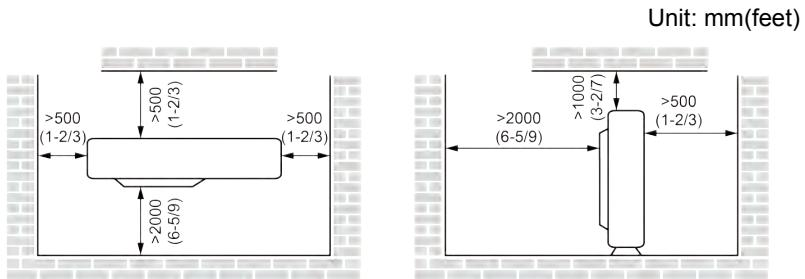

Fig. 3.2
- (1) Install the outdoor unit in a place where it will be free from being dirty or getting wet by rain as much as possible.
- (2) Install the outdoor unit where it is convenient to connect with the indoor unit.
- (3) Install the outdoor unit where the condensate water can be drained out freely during heating operation.
- (4) Do not place animals and plants in the path of the warm air.
- (5) Take the air conditioner weight into account and select a place where noise and vibration are small.
- (6) Install the outdoor unit where is capable of withstanding the weight of the unit and generates as less noise and vibration as possible.
- (7) Provide the space shown in Fig. 3.2, so that the air flow is not blocked. Also for efficient operation, leave three of four directions of peripheral constructions open.